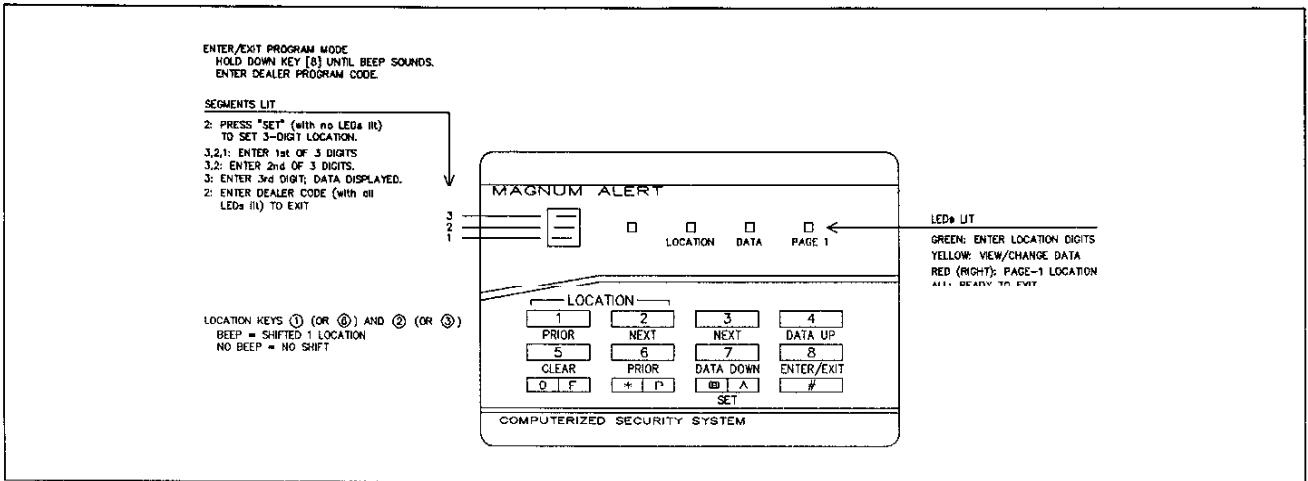

Fig. 2. RP1054e keypad functions in Dealer Program Mode.
- For other programming, see *Dealer Keypad Programming* (Section 4) and the programming aid shown in Fig. 2.